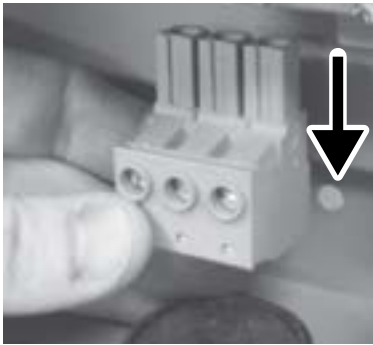

Figure 8 - Pull input and motor terminals down to remove, making wiring easier.
**NOTICE** For convenience in wiring, the input and motor terminals unplug from the box. Pull them down to remove them for ease of access, as shown in Figure 8.